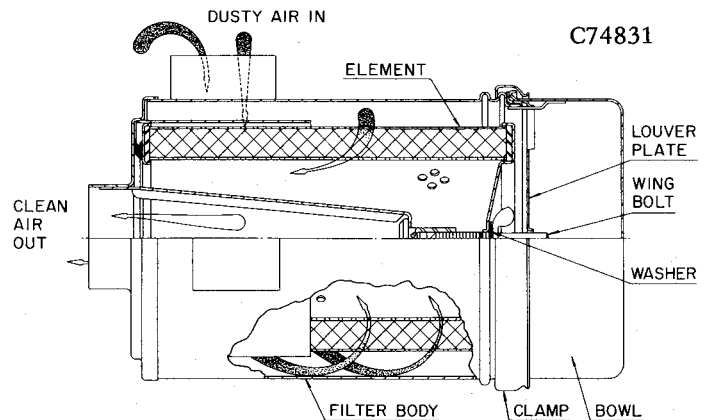

FIGURE 2-4. - HEAVY-DUTY AIR FILTER
**HEAVY-DUTY AIR FILTER** (Figure 2-4) - Extremely dusty locations require a heavy-duty two-stage dry type air filter. If a unit has been so equipped, service the filter as follows: